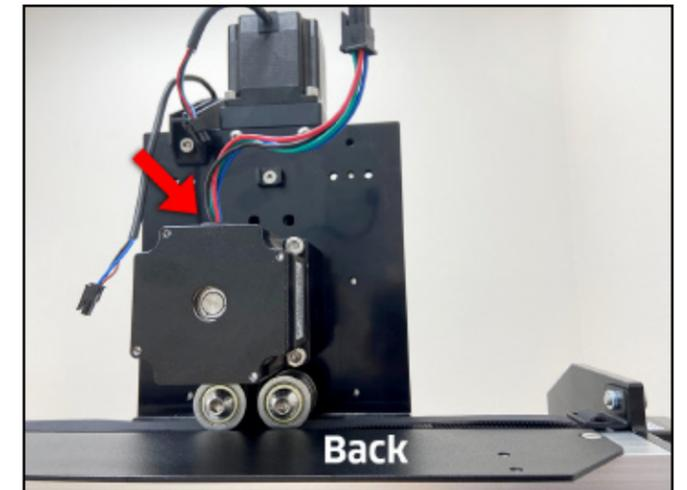

Figure 5-3
4. Position the X-motor over the threaded screw holes on the motor housing. **See Fig. 5-3.**
5. Use a 4mm hex key and four (4) M5×12mm SHCS to secure the X-motor to the motor housing. Fully tighten.